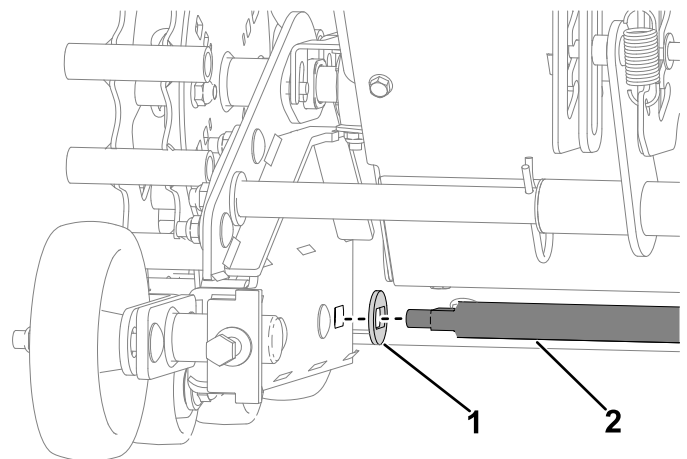

Figure 32
5. Install the 2 special washers on the new pivot bar. Install the new pivot bar with special washers through the track assemblies and support plate, secure with 2 new locknuts (3/8 inch) (Figure 32).